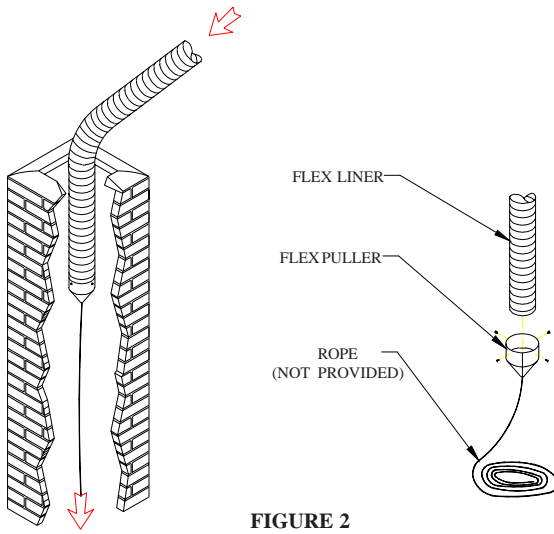

FIGURE 2
**Step 2.** Insert a rope through the end of the Flex Puller and tie a knot at the end of the rope. Attach the Flex Puller to the Flex Liner using four sheet metal screws as shown. (Figure 2) Carefully feed the liner down the chimney (masonry or zero clearance) and out through the damper. One person should feed